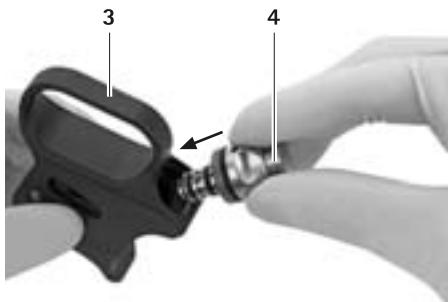

Fig. 3
- Screw irrigation button 4 into MINOP TREND handle 3 down to the limit stop, see Fig. 3.